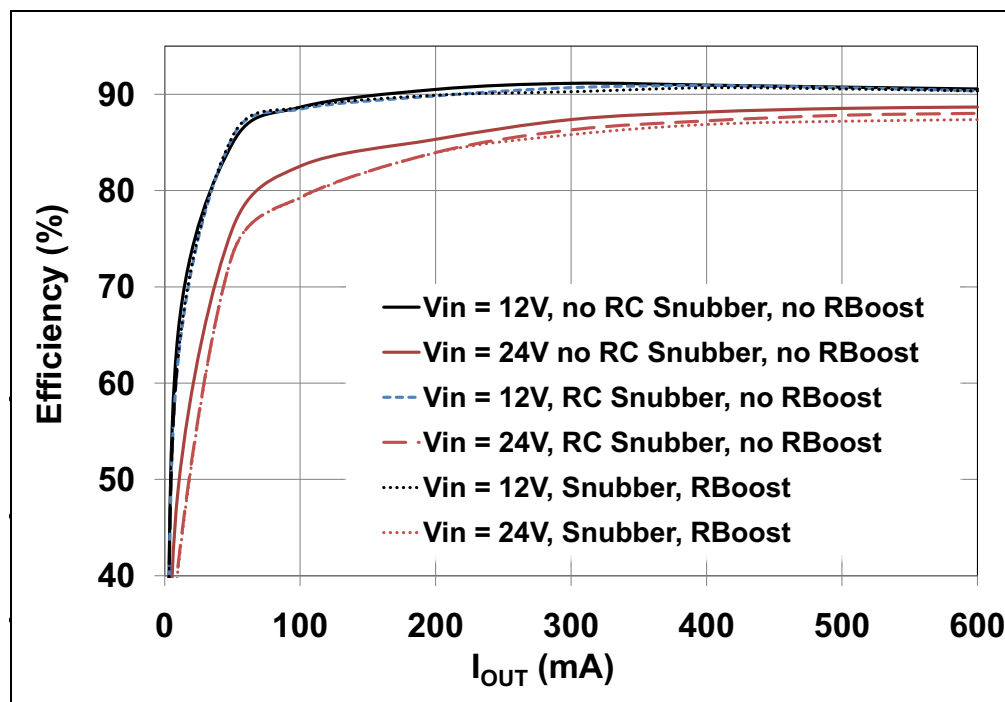

FIGURE 2-6: Efficiency Comparison for the MCP16301 High-Performance Low-Noise 5V Buck Converter Evaluation Board (12V and 24V Input).
The third and most effective method to reduce switching noise is to slow down the turn-on of the integrated N-Channel MOSFET switch, addressing the noise at its source. This method lowers the efficiency of the converter insignificantly (see Figure 2-6), but the noise in the system is significantly reduced. A R_{BOOST} resistance value between 47 and 100 Ohms was typical for this analysis.
- Efficiency comparison with RC snubber and R_{BOOST} (Figure 2-6)